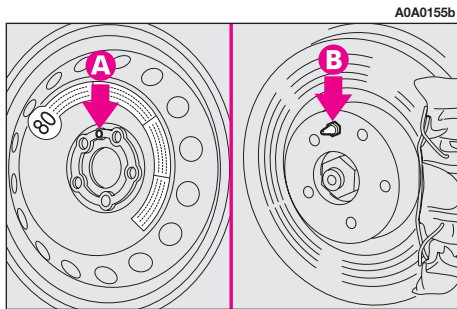

fig. 7
- Install the spare wheel matching the hole (**A-fig. 7**) with the corresponding pin (**B**).
- Fit the normal wheel matching the hole (**A-fig. 7**) with the corresponding pin (**B**).